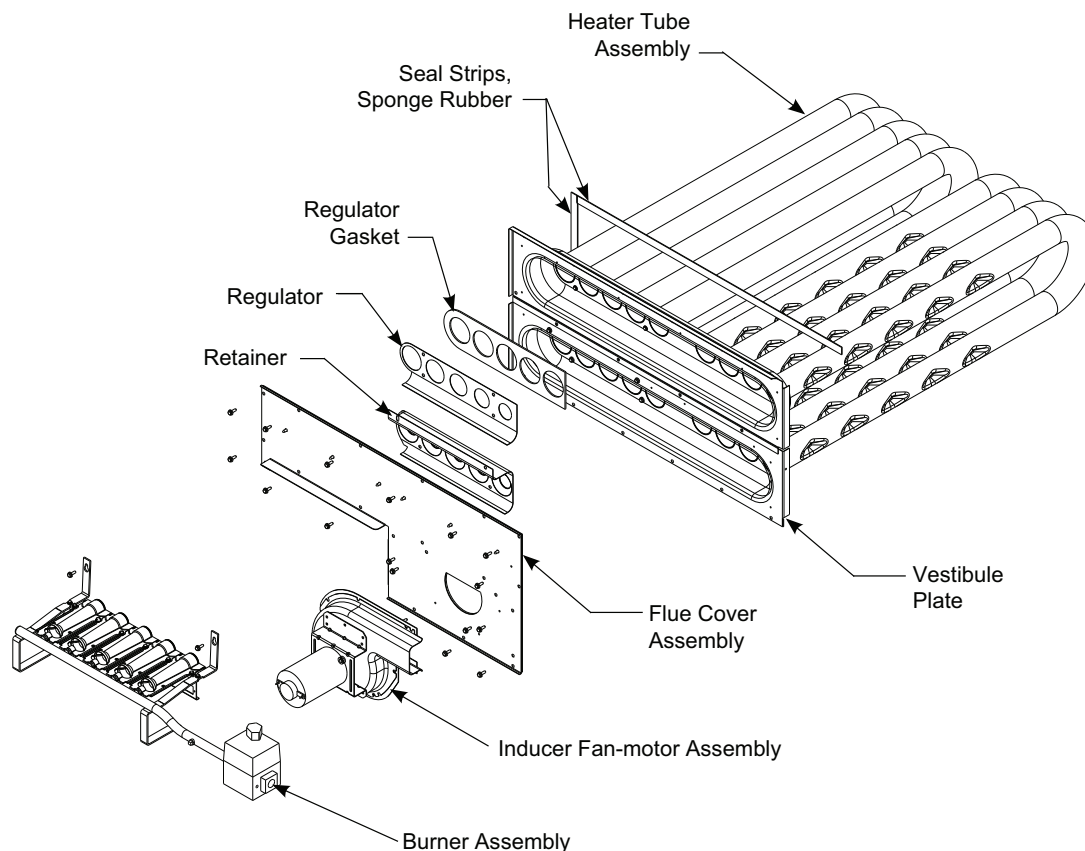

Fig. 53 — Heat Exchanger Assembly
1. Remove the combustion blower wheel and motor assembly according to directions in Combustion-Air Blower section. See Fig. 53.
2. Remove the seven screws attaching the induced-draft motor housing to the vestibule plate. (See Fig. 53.)
9. Remove the two screws attaching the burner rack to the vestibule plate (see Fig. 53).
10. Remove the pressure switch hose from the connection on the flue cover assembly (see Fig. 53).
14. Separate the following from the heat exchanger: inducer fan-motor assembly, flue cover assembly, retainer, regulator, and regulator gasket. See Fig. 53.